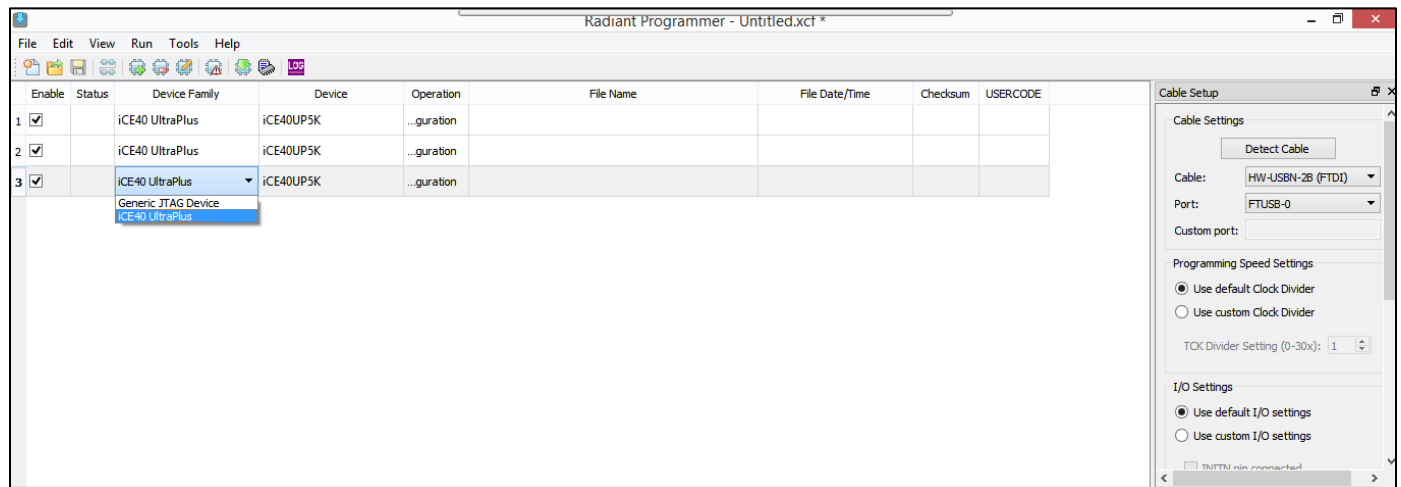

Figure 4.3. Radiant Programmer – iCE40 UltraPlus Device Family Selection
6. In the Radiant Programmer main interface, set **Device Family** to **iCE40 UltraPlus** for all three cases as shown in Figure 4.3.